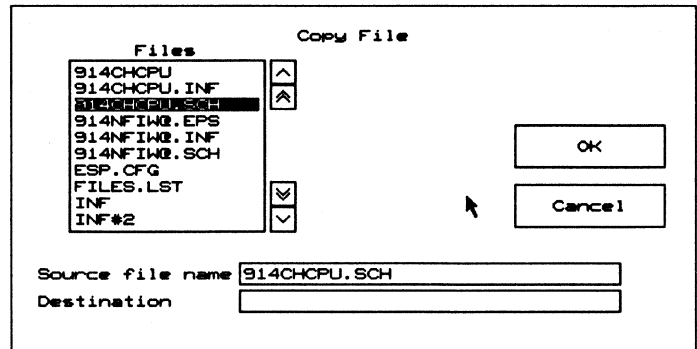

Figure 2-18. Copy File window.
1. Select **Copy File**. The window shown in figure 2-18 displays.